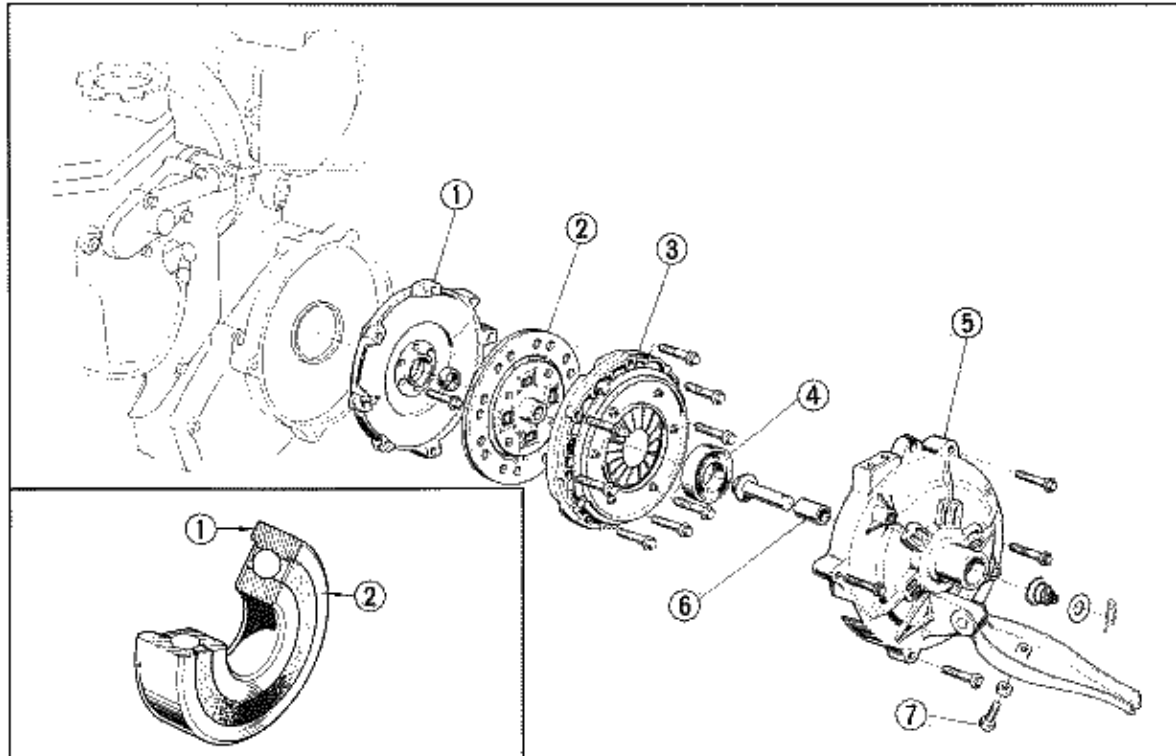

Fig. 5-2
9. Remove the cotter pin at the end of the clutch release rod and remove the clutch release bearing from the clutch housing. The clutch release rod and bearing can be separated by tapping the rod with a pin punch lightly. When driving the rod into the clutch release bearing, install the rod so that the side of the bearing on which the outer race protrudes beyond the face of inner race faces the clutch diaphragm spring (Fig. 5-2).